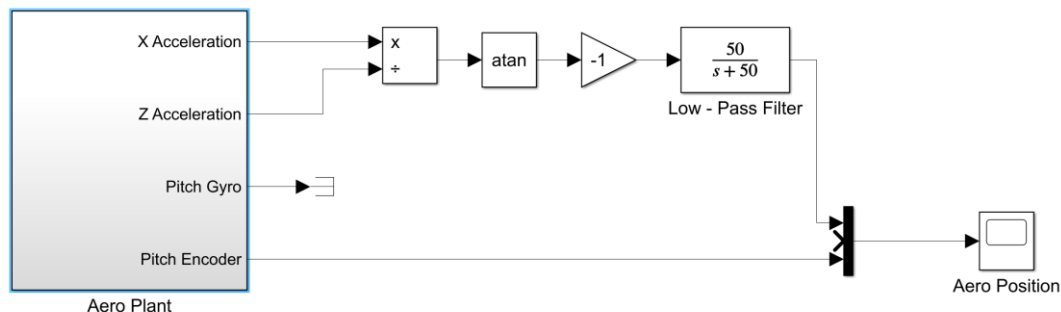

Figure 3: Calculating angle from acceleration
- Modify the QUARC model to add a Divide, Trigonometric Function as shown in Figure 3 to calculate the Aero body pitch from the accelerometer readings using equations from the concept reviews highlighted in the Measurement and Filtering Application Guide, and compare the calculated angle to the encoder measurement. Note that since the Y-axis orientation opposes that of the pitch encoder, the gyroscope readings must be given a gain of -1 as well.